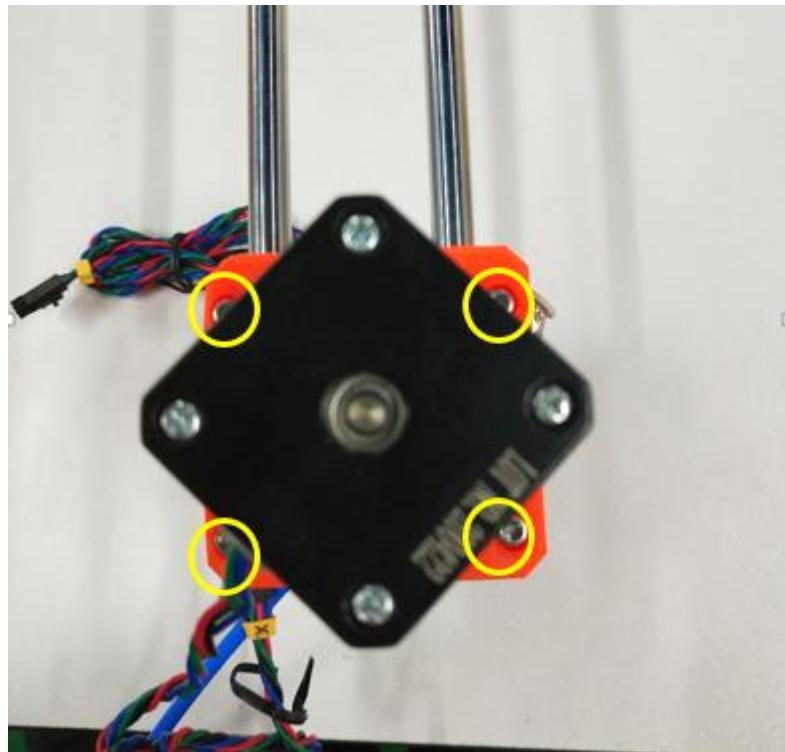

Figure 2.11.4
**Step 2-11-3:** As shown in Figure 2.11.4, after knocking the two smooth rods into the print, **tighten the 4pcs M3 X 12 cylindrical head bolts pre-tightened in step 2-5-3.** (Be careful not to lock it very tightly, otherwise it will easily cause cracks in the print)